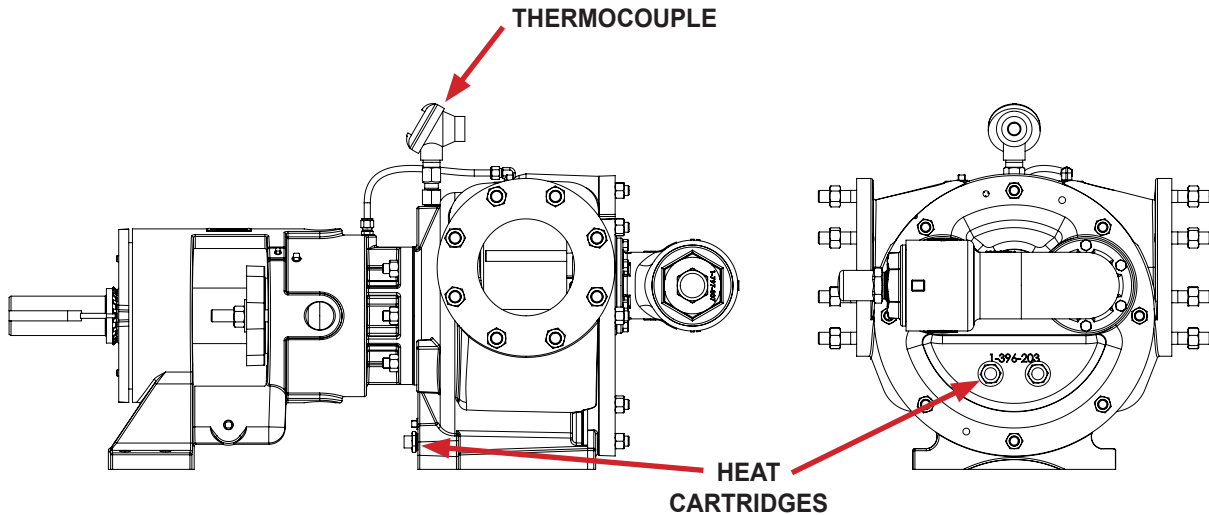

FIGURE 13 - HEAT CARTRIDGE AND THERMOCOUPLE LOCATIONS
2. Coat the threads of the heat cartridge with an anti-seize compound prior to installation. Install heat cartridges into the tapped ports on the head and bracket in the locations shown in Figure 13 below. Figure 13 also shows the location for the thermocouple. The number of heaters used and the total wattage for each pump size is given in Table 1 below. 3/4" heat cartridges should be tightened to 20 ft-lbs.
8. The thermocouple or temperature probe must be installed in the bracket location shown in **Figure 13** below. Any other location may result in localized over or under heating.